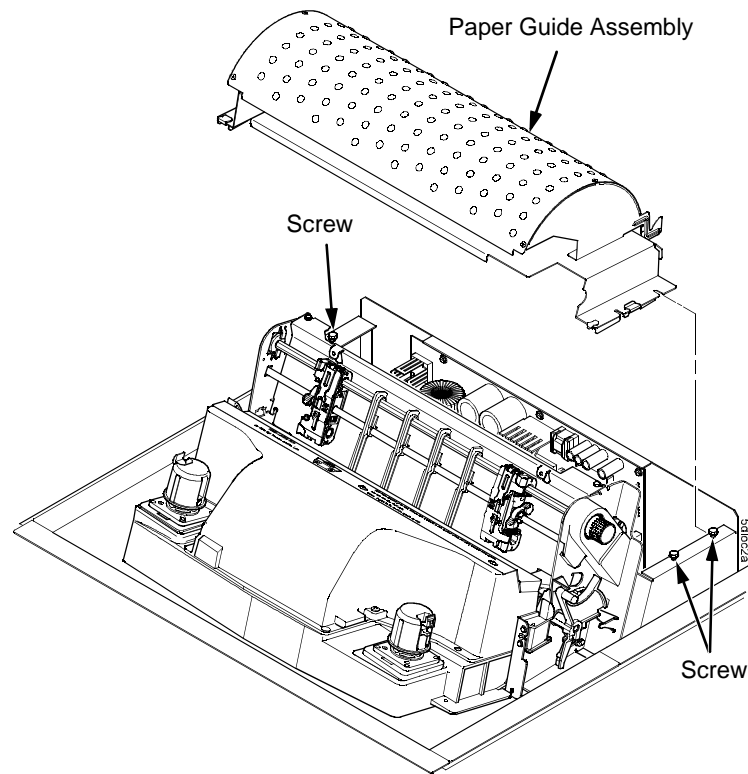

Figure 84. This figure shows how to remove the paper guide assembly from the card cage.
4. Loosen—do not remove—the three screws that secure the paper guide assembly. Slide the paper guide assembly to the left and lift it off the card cage. (Figure 84.)